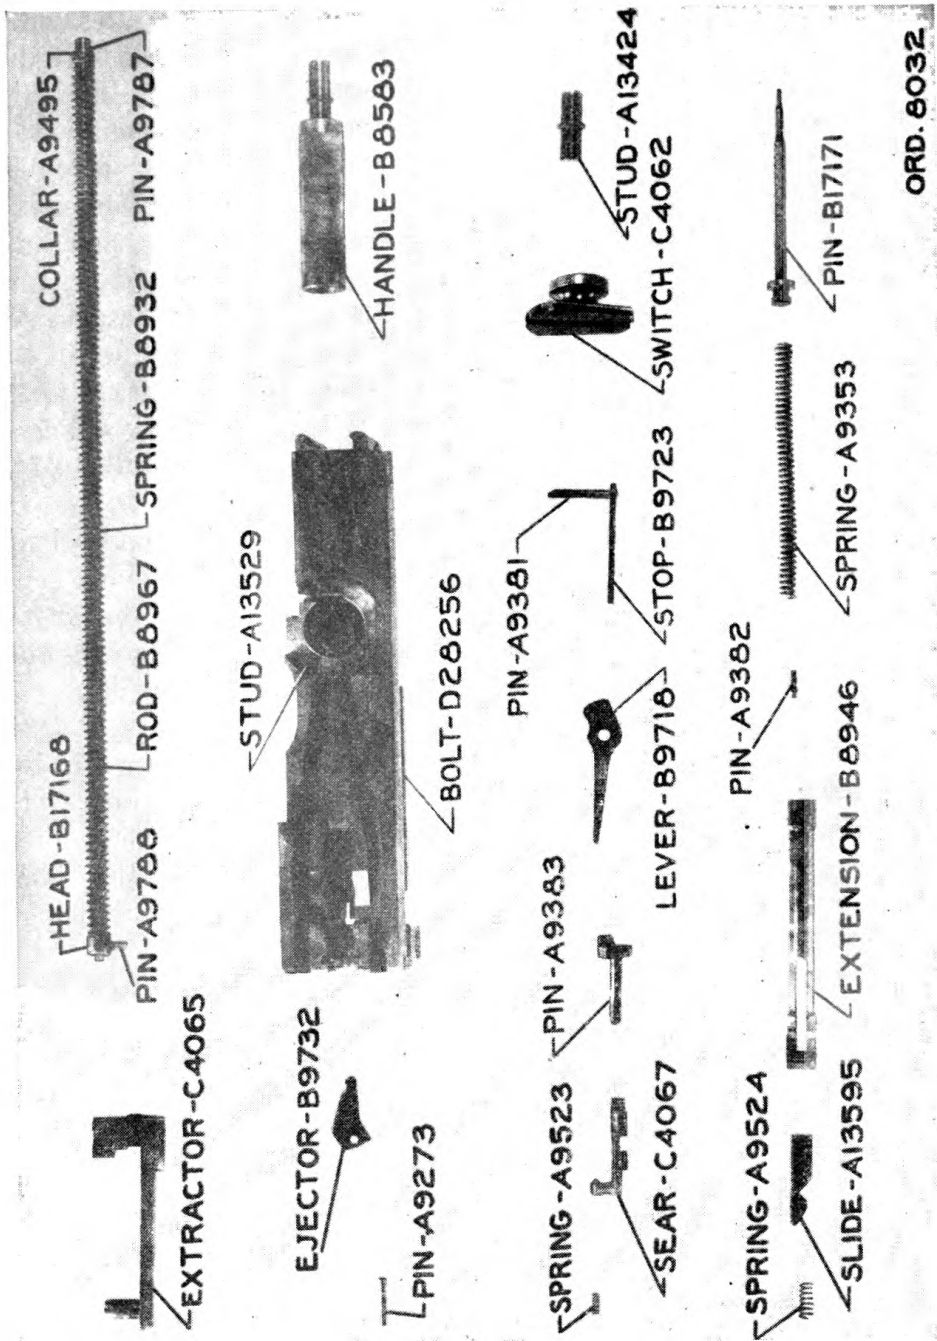

FIGURE 13.—Bolt group.
13. Disassembling.—*a. Bolt group* (fig. 13).—(1) Remove bolt group from gun.